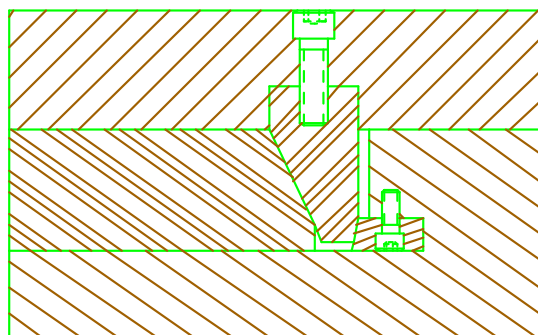

figure 4-4C
- 3) Molds requiring a long bearing height may be double locked. See figure 4-4C.